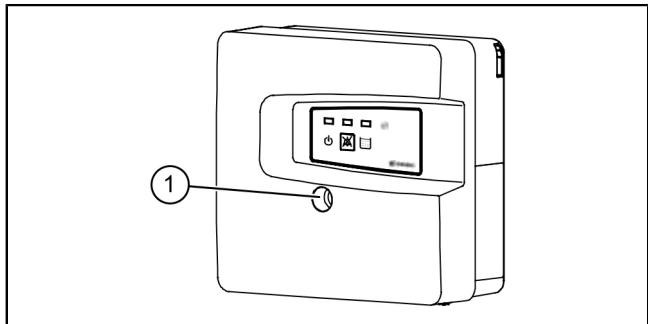

Fig. 4: Open the housing
- ▶ Open the housing cover ④ (see "Fig. 4: Open the housing", page 40).
- ▶ Pull the connection cable through the cable glands. ⑤
- ▶ Fasten the connection cable to the terminal strips as shown in the connection diagram (see "*Connection diagram*", page 38). ⑥